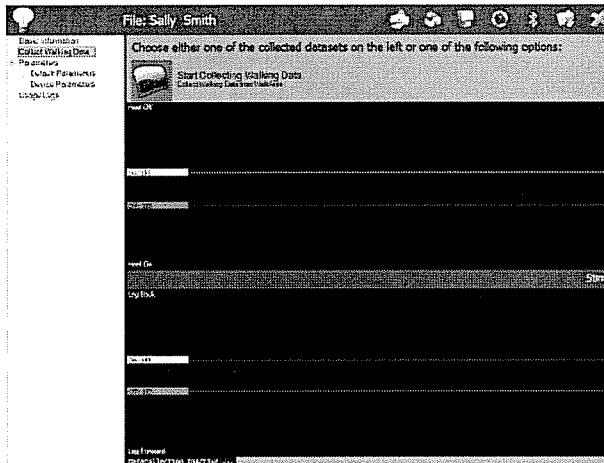

Figure 19 – Collect Walking Data screen.
4. Click on 'Collect Walking Data' from the list on the left of the screen (Figure 19).